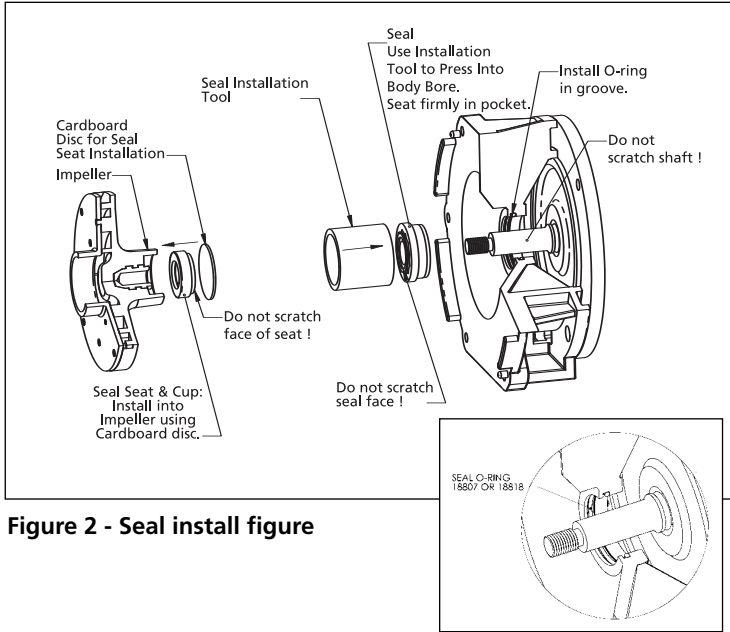

Figure 2 - Seal install figure
4. The ceramic seat is located on the back side of the impeller (part of Ref. No. 5). Pry the seat out by using a screwdriver in the inside hole (See Figure 2). Be careful not to damage or scratch the inside surfaces of the bore holding the seat. Such scratches can cause leaks. Replace the impeller if such damage occurs.
6. Use a wooden dowel to push out the mechanical seal (part of Ref. No. 5) from the body adapter (Ref. No. 1) (See Figure 2). Do not dig the seal out from the front.
3. Wet the rubber portion of the new seal seat (part of Ref. No. 5) with a light coating of soapy water. While wearing clean gloves or using a clean light rag, press seal seat squarely into impeller recess. Use the cardboard washer (usually supplied with new seal) to place over the polished ceramic surface and use a piece of pipe or dowel rod to press in firmly but gently (See Figure 2). Avoid scratching the ceramic face, usually white.
of motor shaft (opposite the threaded end) to tighten impeller to 150 in-lbs. of torque (See Figure 2).